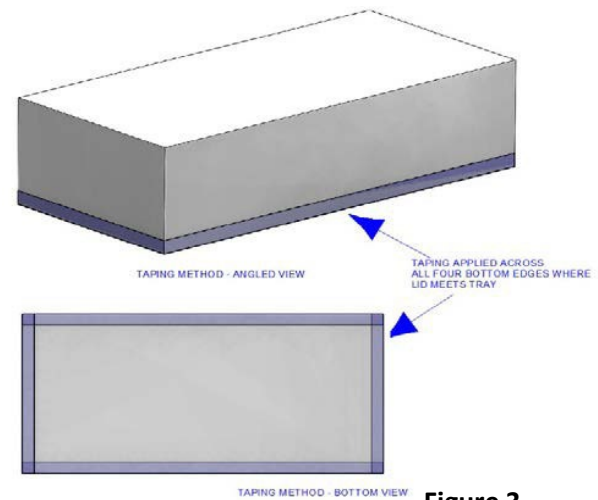

Figure 3
3. All telescoping master cartons should be taped on all four edges where the top lid meets the bottom tray (reference Figure 3 at right)